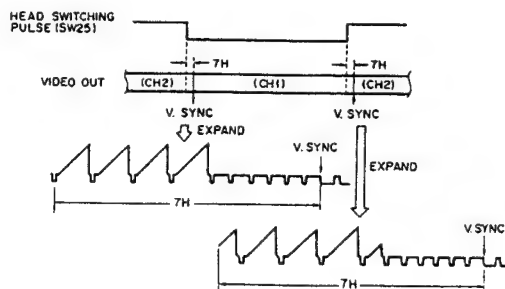

Fig. 4-102
(1) Setting the Head Switching Point (Figs. 4-102, 4-151)